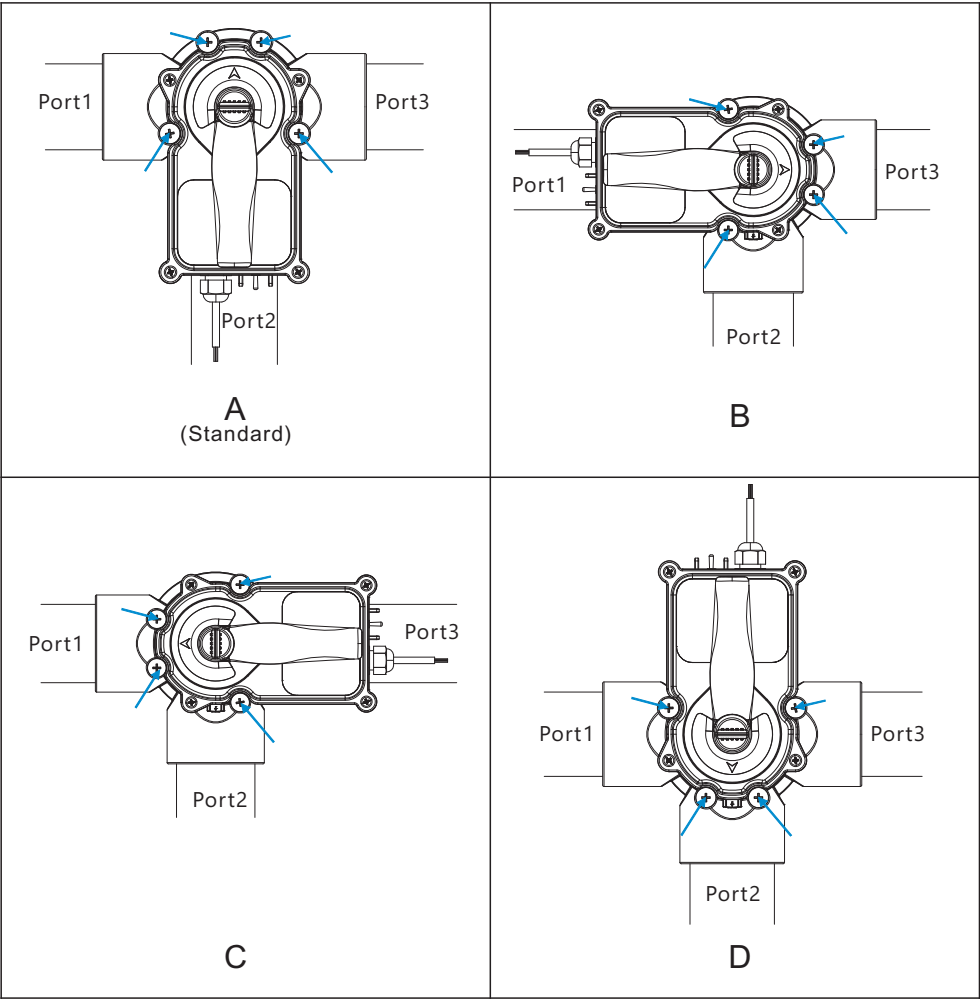

Fig. 1 4 different positions of mounting the Valve Actuator to the **3-way valve**.
2. Refer to **Fig.1** to determine which four screws to remove.